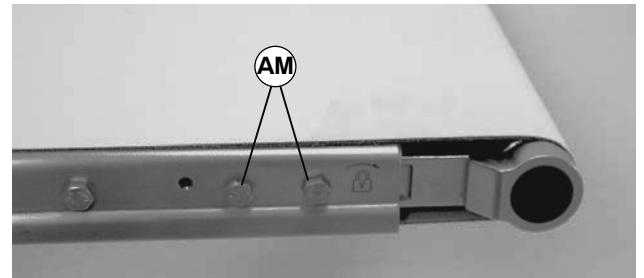

Figure 18
4. Loosen four M6 hex head cap screws (AM of Figures 18 and 19).
4. Loosen four M6 x 20 mm hex head cap screws (AM of Figures 18 and 19).